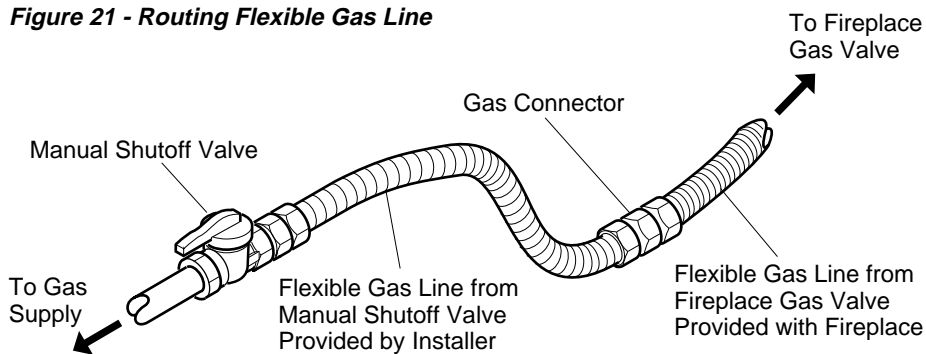

Figure 22 - Attaching Flexible Gas Lines Together
NOTICE : Most building codes do not permit concealed gas connections. A flexible gas line is provided to allow accessibility from the fireplace (see Figure 22). The flexible gas supply line connection to the manual shutoff valve should be accessible.
2. Apply pipe joint sealant lightly to male threads of gas connector attached to flexible gas line (see Figure 22). Connect flexible gas line to flexible gas line attached to gas valve of fireplace (see Figure 22).